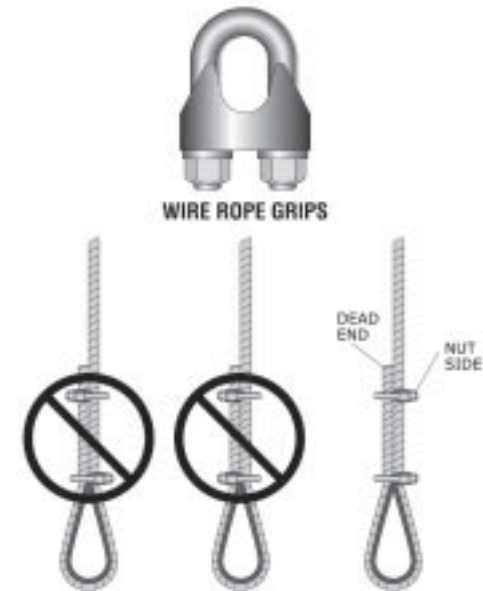

Figure 153: Wire rope grip assemblies.
**Figure 153 clarifies the orientation of wire rope grips.**